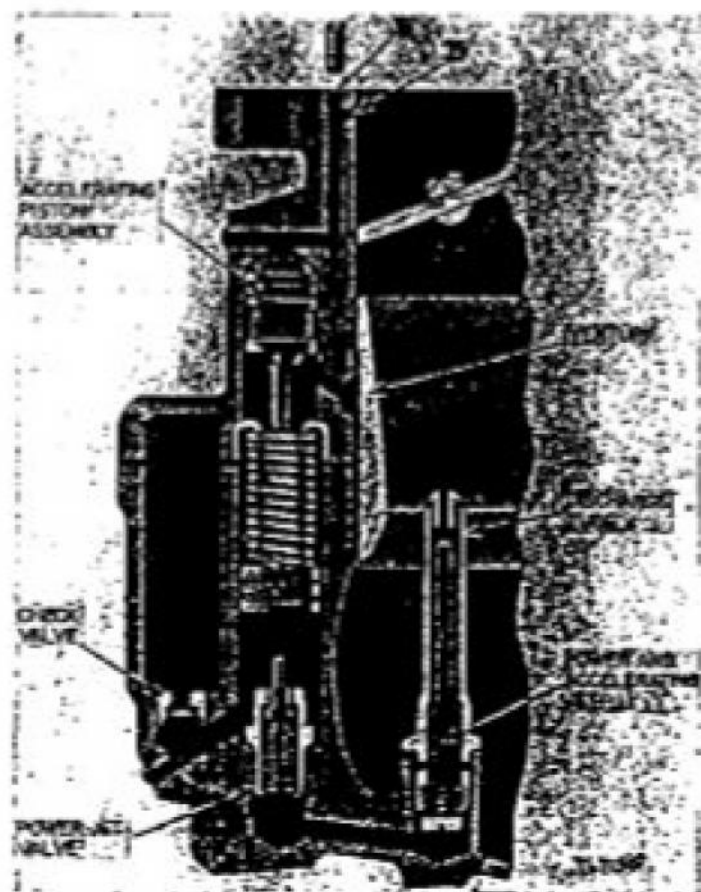

Figure 8. Zenith 100 series carburetor, showing suction passages No. 1 and No. 2.
(8) *Governor operation.* The suction passages (figs. 8 and 9) are so arranged that the accelerator and economizer device will operate equally well with or without a governor. When no governor is used, the screw at the top (No. 1) is removed, and the vacuum is then transmitted down the vertical passage